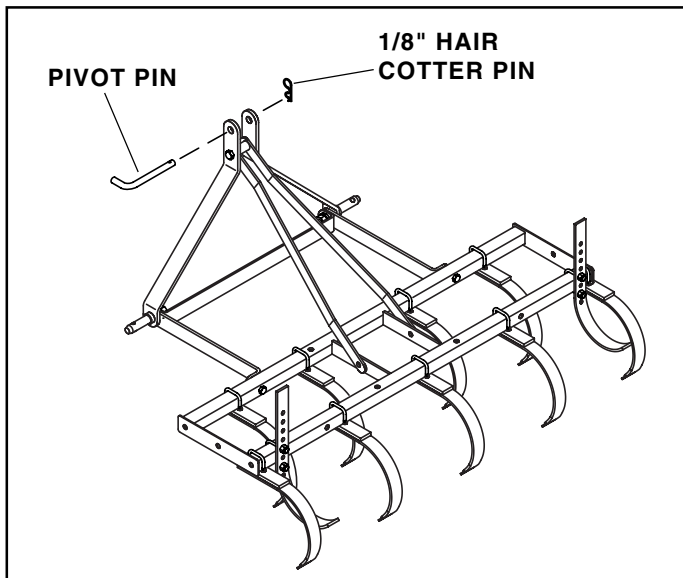

FIGURE 5
- Install the pivot pin through the upper hole at the end of the mast sides. Secure the pivot pin with a 1/8" hair cotter pin. See figure 5.